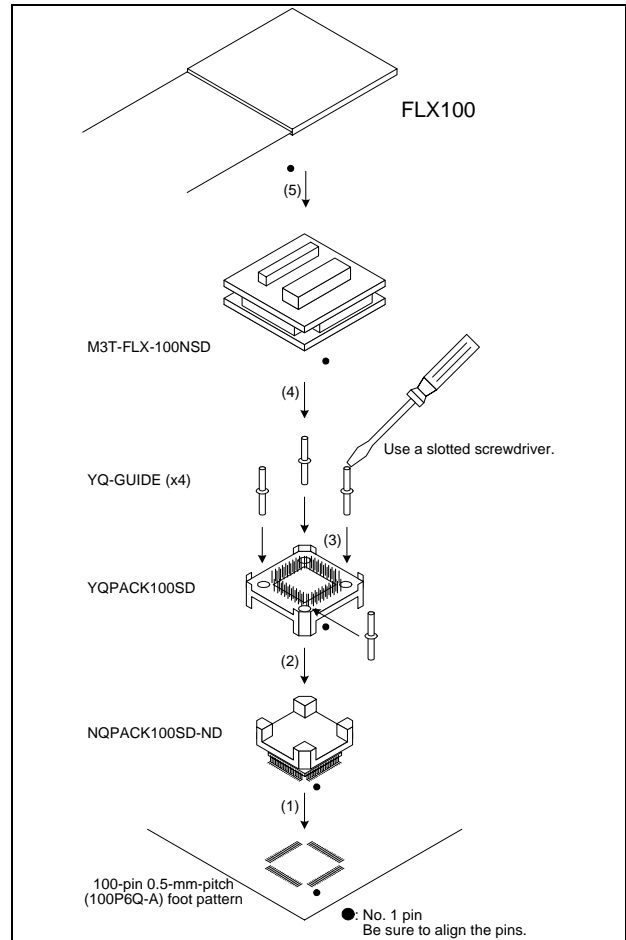

Figure 3 Connection procedure of the M3T-FLX-100NSD
5. Connection Procedure (See Figure 3)